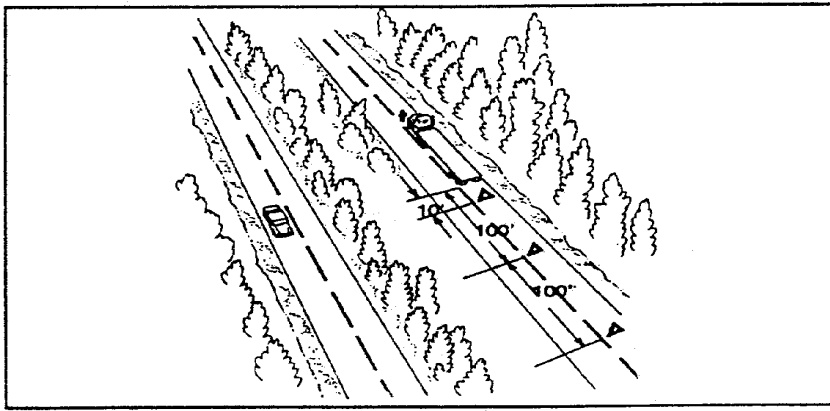

Figure 2-10
- If you must stop on or by a one-way or divided highway, place warning devices 10 feet, 100 feet, and 200 feet toward the approaching traffic. (See Figure 2-10.)